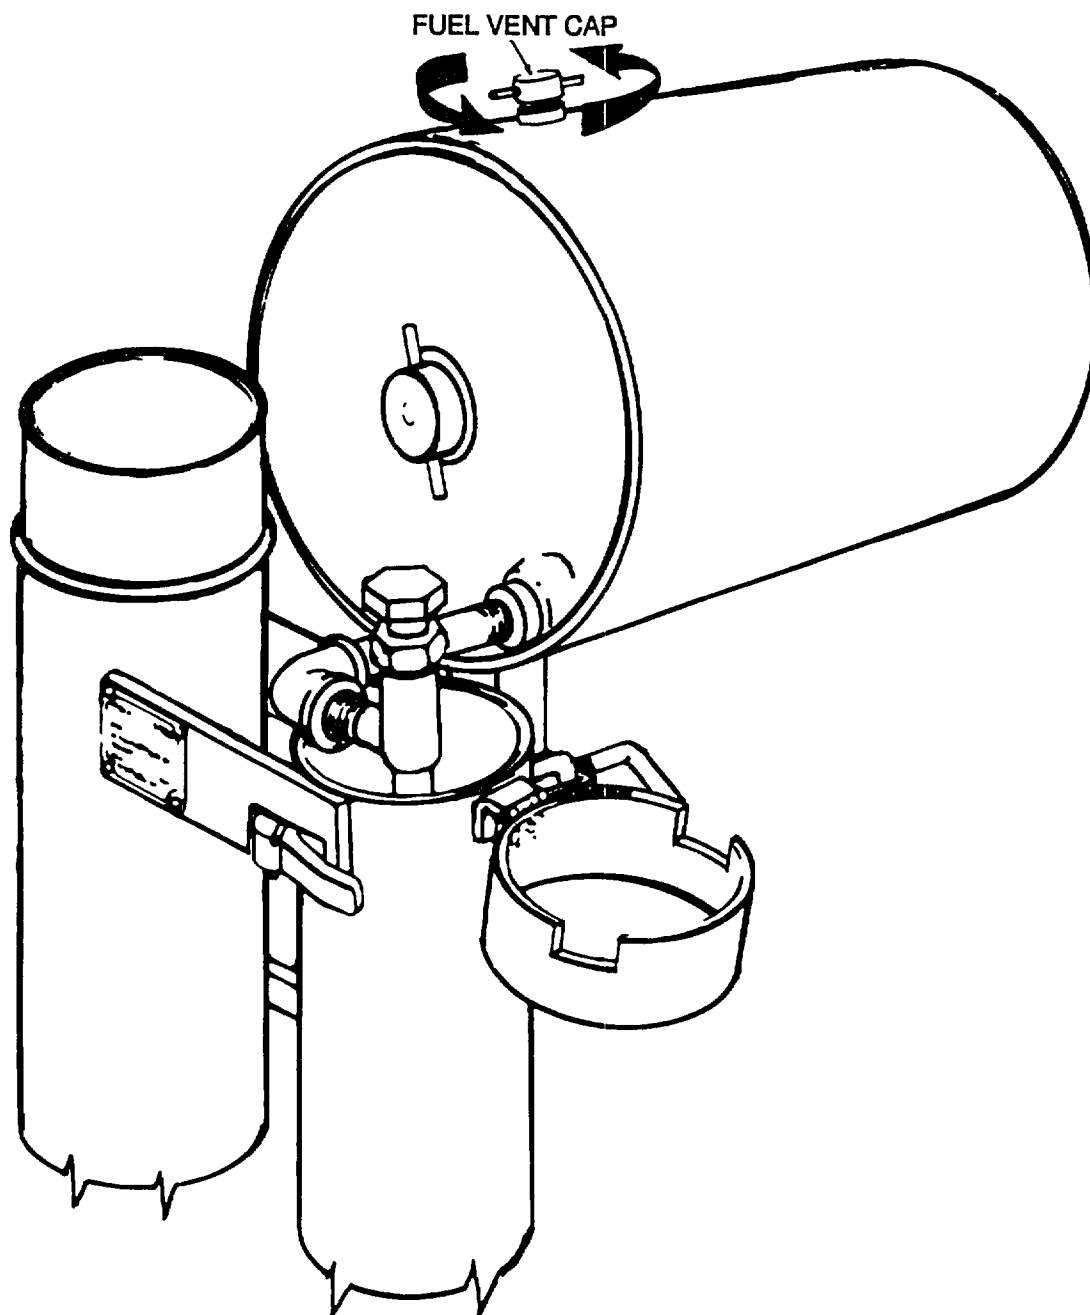

Figure 2-4. Preheating Flue with Igniter Handle
- (1) Preparation for Starting. Perform the before operation preventive maintenance checks and services (PMCS) described in Table 2-1.
- (2) Preheating Flue.
- (a) Open burner hood (Figure 2-4).
- (3) Starting the Heater.
- (a) Using igniter handle, move igniter cup into burner compartment until edge of cup is below fuel valve (Figure 2-4).